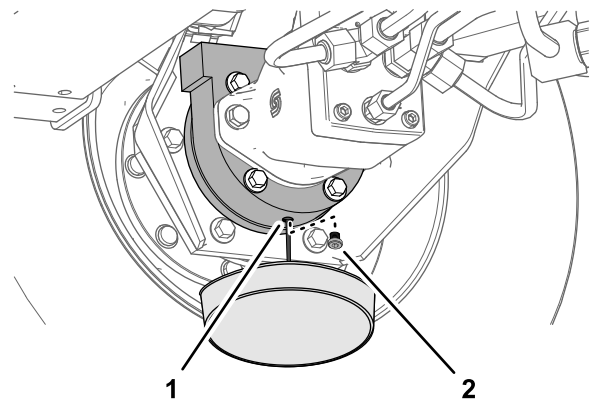

Figure 65
6. Place a drain pan under the brake housing, remove the drain plug, and allow the oil to fully drain (Figure 65).